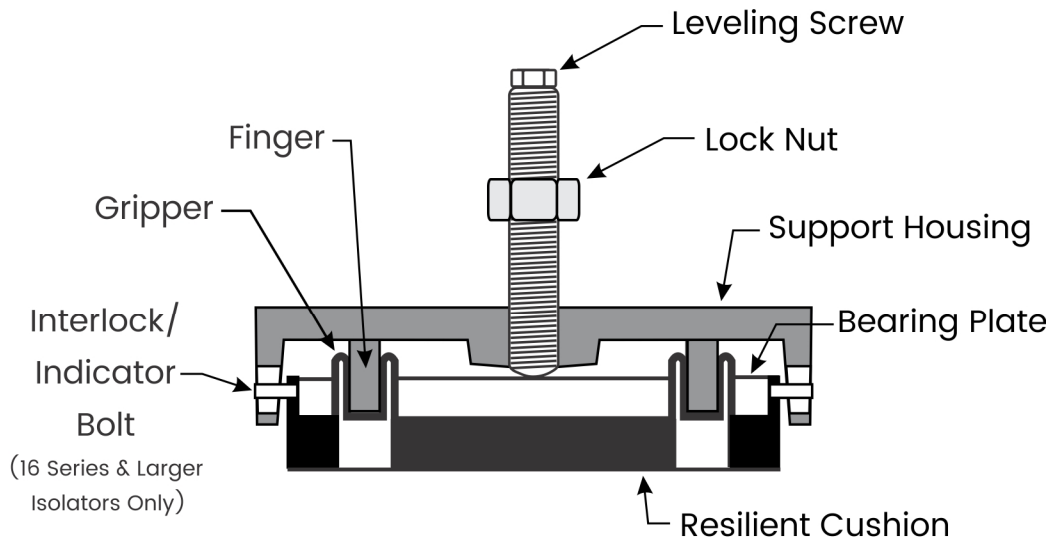

Figure 1
**Micro/Level® Isolators** contain five basic components: the Resilient Cushion (elastomer), Bearing Plate, Support Housing, Leveling Screw and Lock Nut. See Figure 1.